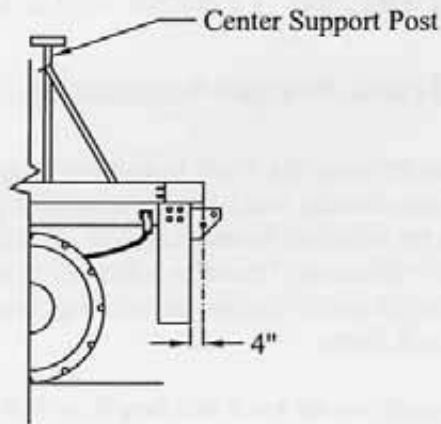

Fig. 17
3. DETERMINE WHETHER THE BED OF THE TRUCK OVERHANGS MORE THAN 4" FROM THE REAR OF THE FRAME. THIS WILL AFFECT WHAT TYPE OF EXTENSION IS USED. Refer to the following four primary methods that can be used for attachment of the TMA. The Model A and Model C are positioned vertically in the travel position and only have 4" of available space between the rear of the frame and the front vertical surface of the TMA (fig. 16). If 4" is not available, vertical support tubes can be welded into position to secure the 11" extension frame as shown in fig. 17. When a dump truck is used that already has a flat plate welded to the back of the frame and there is further interference from a salt spreader, a 24" extension frame is used as in fig. 18.	X X X X
Adding ballast can affect the truck bed height, so it is advisable to ballast the truck before attaching the TMA. Check the truck frame to make sure that it is structurally sound and not rusted. Also check the amount of frame extension in back of the spring brackets – a minimum of 4" is needed. Check that the bed of the truck does not extend beyond the back of the frame more than 15" (see Fig. 17). This is necessary for vertical clearance of the TMA if the double 90° position is used. Also check the height of the truck side gates. These should be less than 8' 6" from the ground to allow clearance if the double 90° tilt is used.